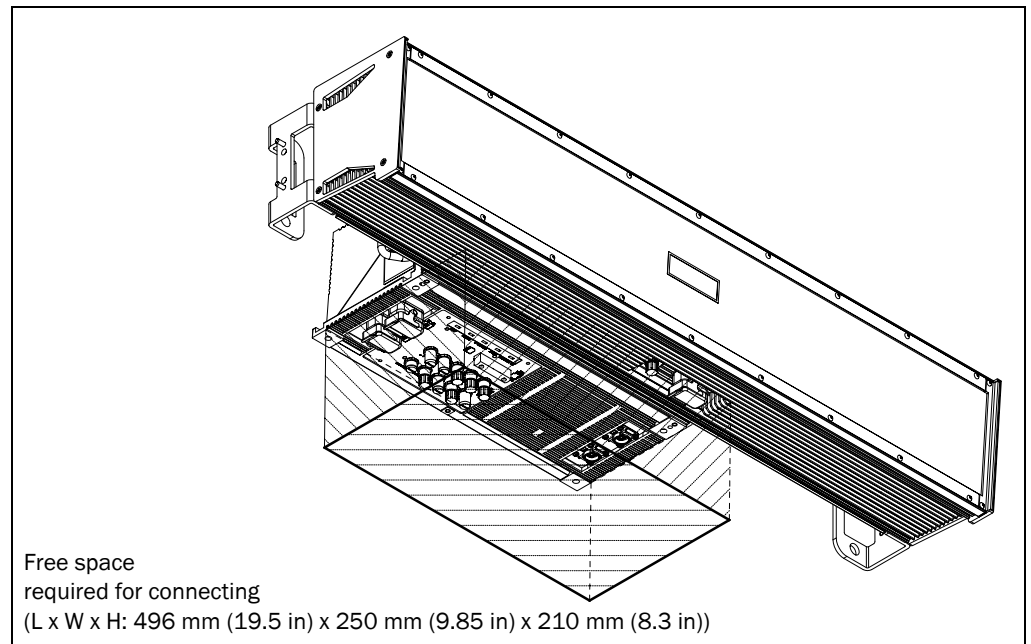

Abb. 4-2: Free space required for connecting the camera and the illumination
3. Insert the guide pins of the illumination into the grooves of the 180° brackets. Always ensure free space for connecting (Fig. 4-2, page 47).